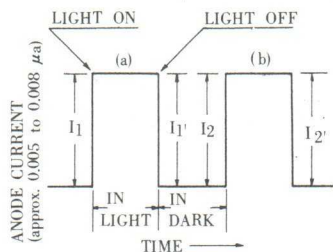
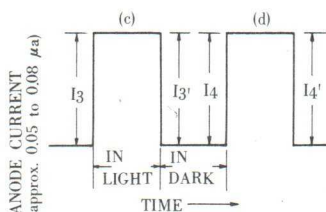

FIG. 2
FIG. 3
* The light intensity was adjusted so as to take the anode current (A) and (B) respectively.
3. The light pulse of from a¹ out 30 to 40 seconds interval was supplied to the tube as in the Fig. 2 and Fig. 3.